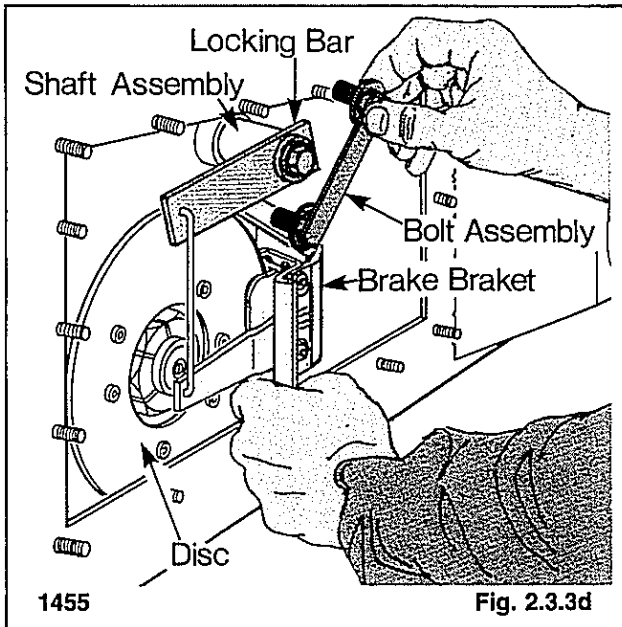

Fig. 2.3.3d
9. Remove the bolt assembly from the parking brake bracket (fig. 2.3.3d). Remove the bolt which secures the locking bar to the brake shaft. Remove the brake bracket and locking bar assembly from the loader.